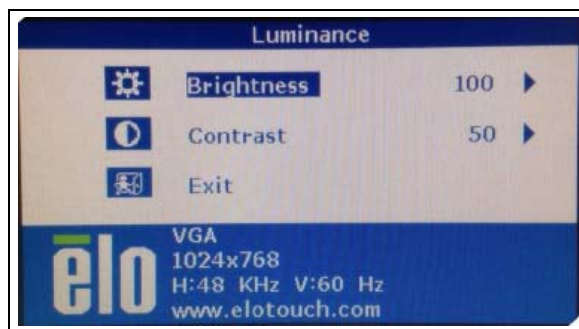

Figure 11
- (10) Make sure that the values shown in figure 11 are set.